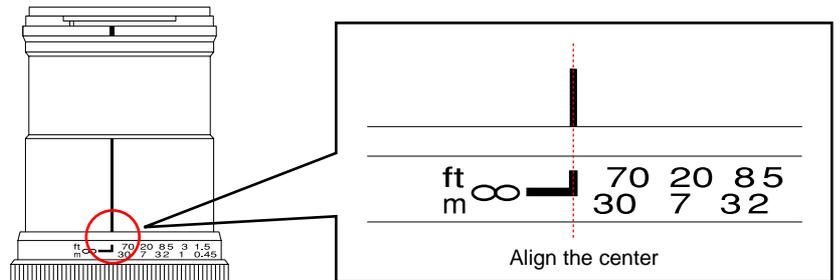

Fig.4-4-8
- 4) By rotating the focus ring of 1st lens barrel assembly, align with the infinity mark in Fig.4-4-8.